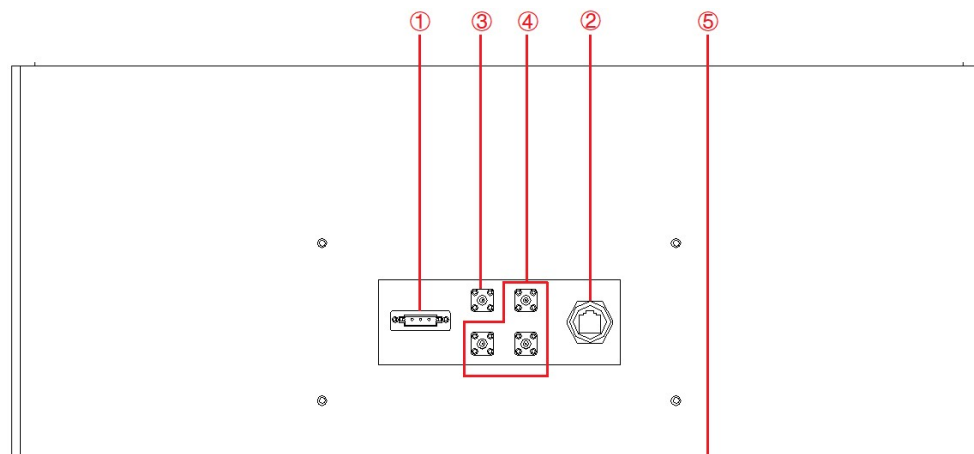

Figure 1-8 Rear panel
The LAN interface located on the rear panel is used for remote control of equipment (Figure 1-8②).